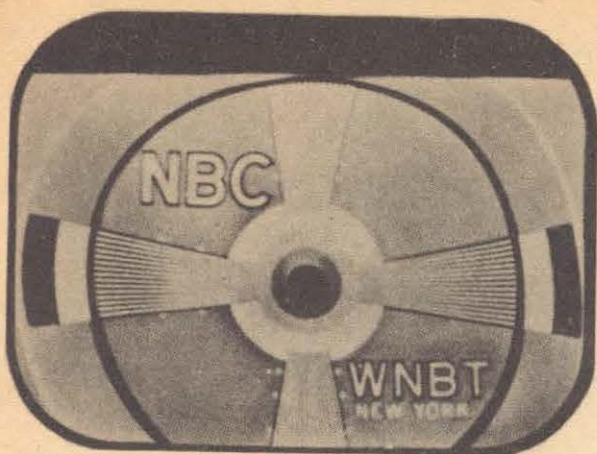

Fig. 17 Vertical Centering Control Misadjusted
**VERTICAL CENTERING.** Figure 17 shows the effect of misadjustment of the vertical centering control. As in the case of the horizontal centering control, just discussed, vertical centering is accomplished either by mechanical means (adjustment of the focus coil position) or by electrical means (voltage bias of the plates in an electrostatic picture tube or current bias in the case of an electromagnetic tube).